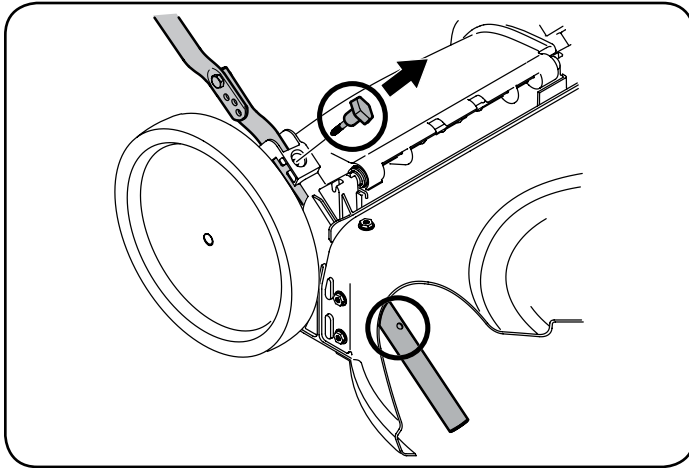
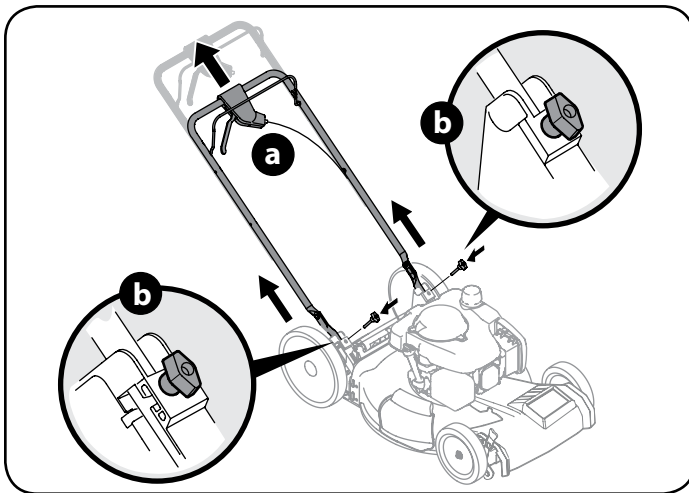

Figure 6
Figure 7
- Remove T-bolts from the handle brackets as shown in Figure 6.
- Pull upward on the handle until holes in lower handle (shown in Figure 6 deck cutaway) line up with holes in handle bracket. See Figure 7.
- Insert the T-bolts removed in Step 2 through the handle brackets and lower handle and tighten securely to secure the handle in place. See Figure 7.